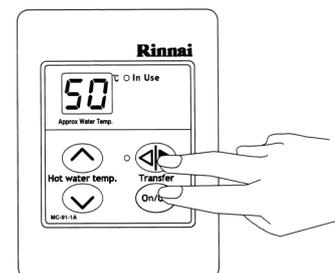

Fig. 2
STEP 1: On the Master controller press and hold the **Transfer** and **ON/OFF** buttons simultaneously (see Fig.2) until a “beep” is heard (approx. 5 seconds).